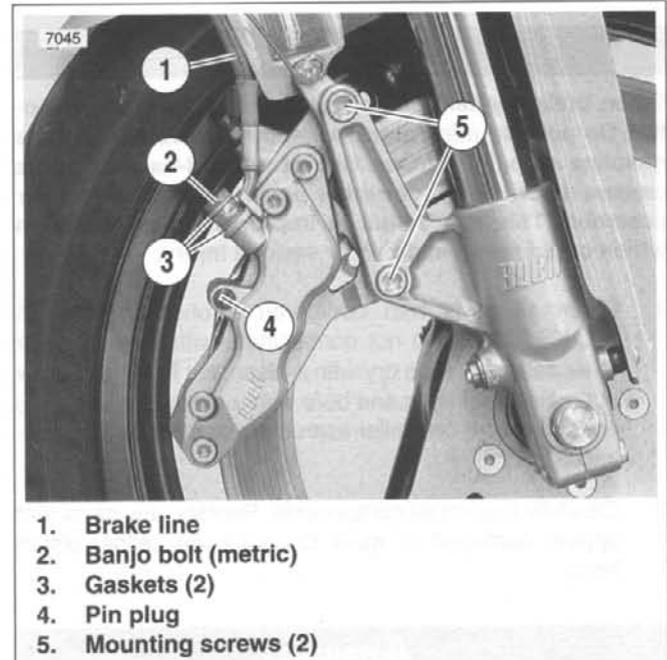
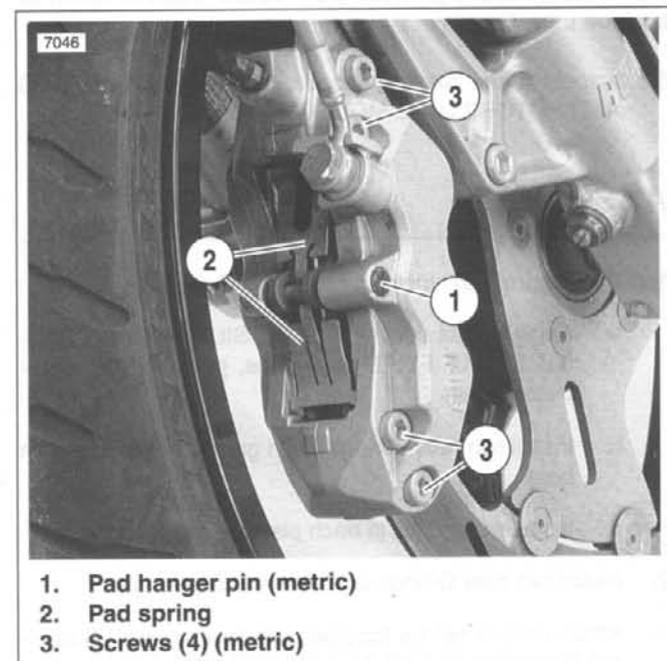

Figure 2-34. Front Brake Caliper Mounts
Figure 2-35. Pad Spring
2. See Figure 2-34. Remove banjo bolt (2) (metric) and two gaskets (3) to disconnect brake line (1) from caliper. Discard gaskets.
- a. Remove pin plug (4).
- b. See Figure 2-35. Remove pad hanger pin (1) (metric).
- c. Remove pad spring (2).
4. See Figure 2-34. Detach caliper from mounts.
- a. Remove both mounting screws (5) while supporting caliper above brake rotor.
1. See Figure 2-35. Remove four screws (3) (metric) to separate caliper halves.
2. See Figure 2-34. Apply LOCTITE THREADLOCKER 272 (red) to both caliper mounting screws (5). Install and tighten to 22-25 ft-lbs (29.8-33.9 Nm).
- b. See Figure 2-35. Install pad spring (2) with opening at top as shown.
- c. Install pad hanger pin (1) (metric). Tighten to 11-14.5 ft-lbs (14.7-19.6 Nm).
- d. See Figure 2-34. Install pin plug (4). Tighten to 1.5-2.1 ft-lbs (2.0-2.9 Nm).